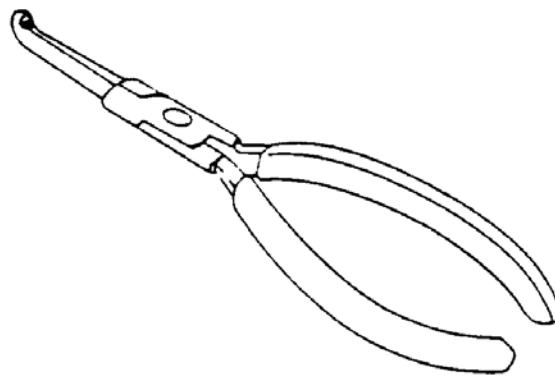

Figure 6-6. Tubing pliers.
f. **Tubing Pliers.** Use these modified pliers for pushing 1/8-inch tubing onto the barbed fittings. Refer to figure 6-6.